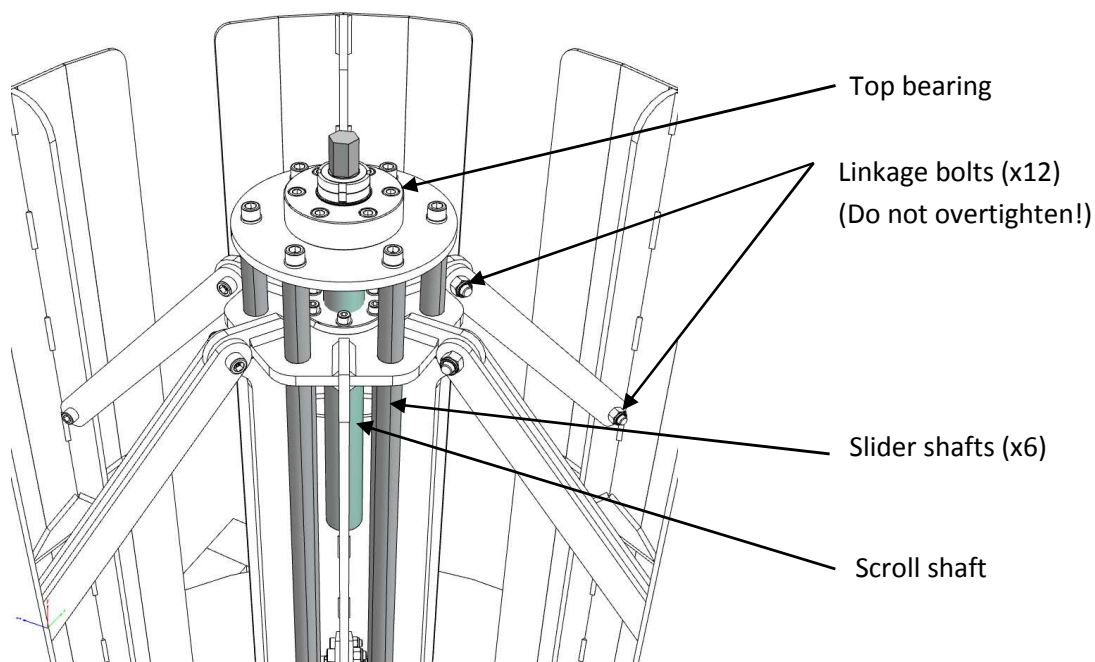

Figure 20: Coiler mandrel
- The scroll shaft (see Figure 20) in the centre of the mandrel should be lubricated with a moly grease
- The slide shafts (see Figure 20) should be lubricated with grease
NOTE that the linkage bolts on the mandrel (Figure 20) should not be overtightened as this will impair the operation of the mandrel.